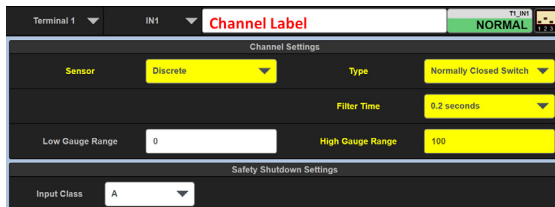

Figure 3.11 – Discrete Channel Settings and Channel Label
3.11 **Type a Channel Label** — Type a label in the Channel Label box for Channel 1 shown in Figure 3.11. An example may be **JACKET WATER LEVEL**. Save the changes. Note that this Channel Label is displayed on the Values page, and also the Dashboard page when configured.